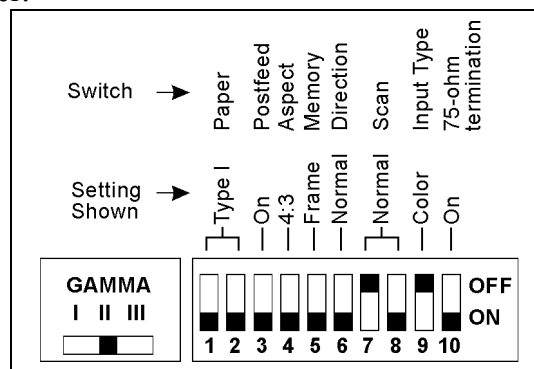

Figure 2-34. Switch Settings: Sony 860 Thermal Printer
2. Set the switches on the back of the printer according to (Figure 2-34).